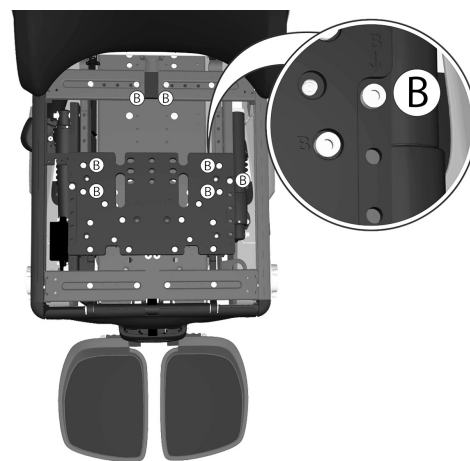

Figure 478. The position of the rear section of the seat frame (back rest position) is fixed by five screws, here marked with the letter B.
7. Adjustment of the rear section of the seat frame (backrest position): remove the seven screws marked (B) securing the seat frames rear section, see fig. 478.